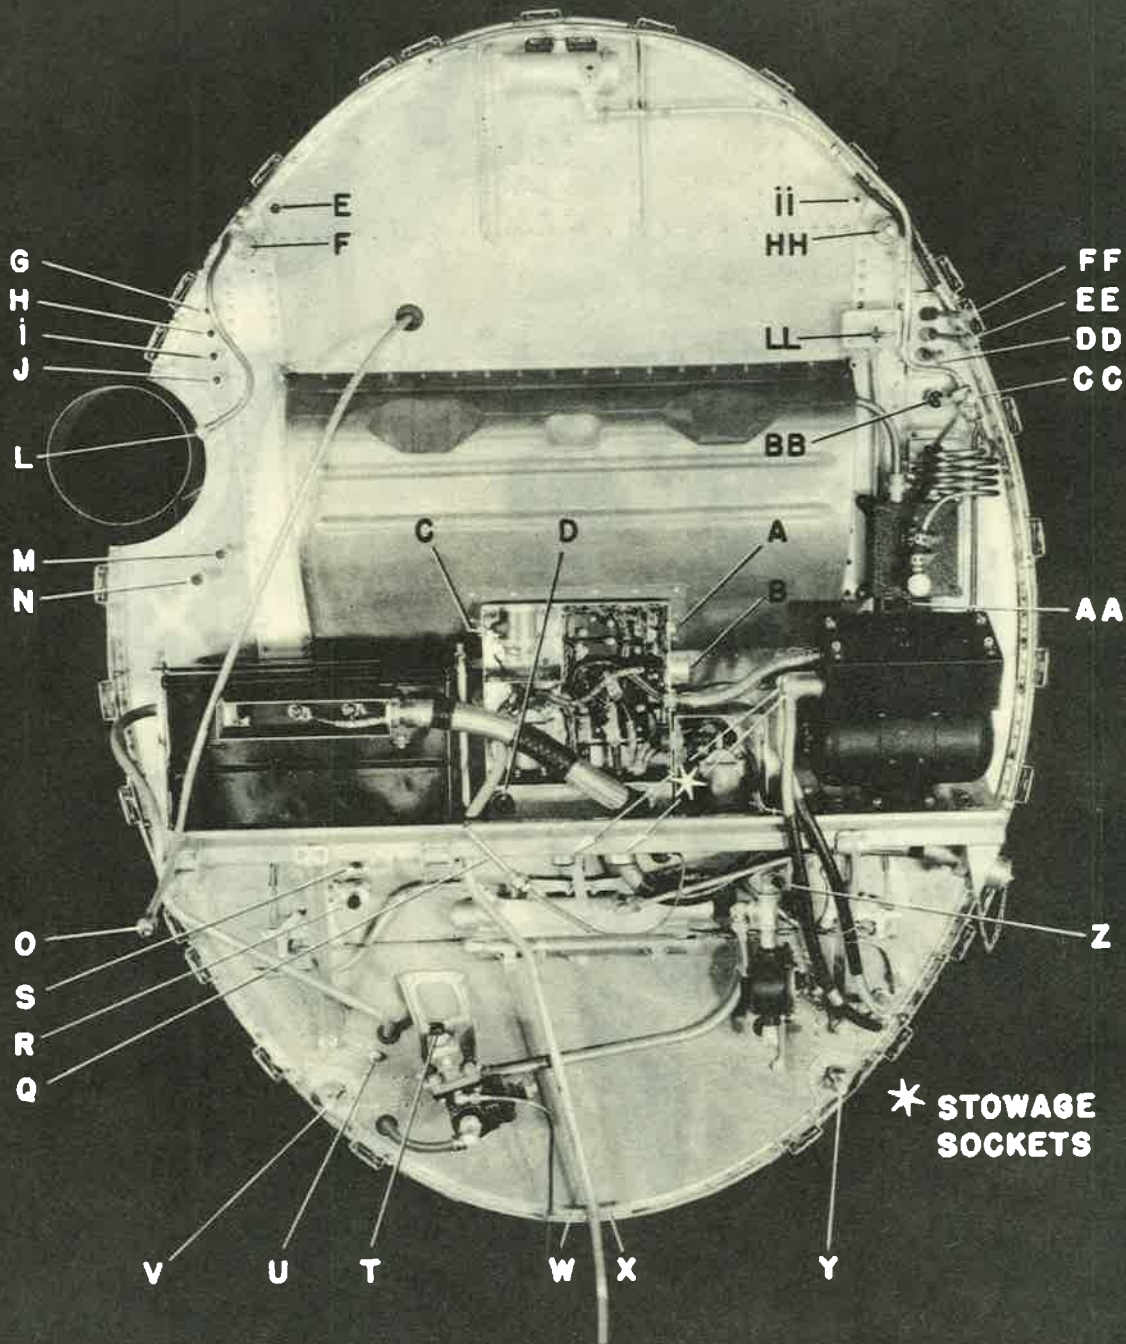

FIGURE 24- FIREWALL FORWARD SIDE
b. Power Plant Complete: - The sequence of operations necessary to install the complete assembled power plant, including all units forward of the firewall is as follows: (Refer to Figures 24 and 25 for letters designating points of attachment.)
(1) Due to the snug fit, it is recommended that the four engine mount fuselage attachment fittings, (HH), (F), (V) and (Y), respective fuselage engine mount attachment fittings, attachment bolts, AN8-15 and bolt retainers, 25-31144, be cleaned and coated with graphite cup grease, prior to assembly.
(2) Remove nut from rocker arm pin bolt, located at exhaust side of No. 2 and at intake side of No. 9 engine cylinders. Place ends of Wright Company hoisting sling, No. 83297, (JJ), over ends of pin bolts and reinstall nuts, castellation first.
(3) Attach hoist (KK), and raise power plant into position. Rear of mount must be supported by personnel, and the two lower points of attachment to fuselage, (Y) and (V), engaged and loosely held by nuts prior to the engagement of the two upper points of attachment, (HH) and (F).
(4) Secure each engine mount attachment fitting to its respective fuselage attachment bolt with an AN960-816 washer, an AN310-8 nut, and an AN380-3-3 cotter. Tighten these four bolts to a tension of from 300 to 500 inch pounds.
(5) Remove engine hoisting sling, reinstall nuts and cotteners on rocker arm pin bolts, and make the following connections: -